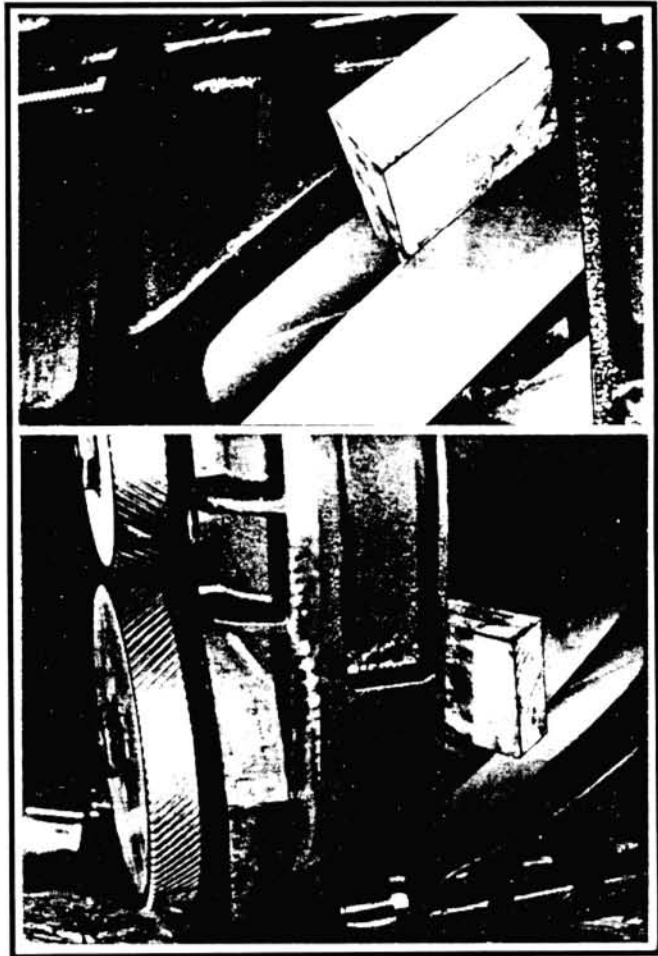

Figure 4-1 Blocking Rotors
3. Block rotors with a plastic or wooden rod as illustrated in Figure 4-1.